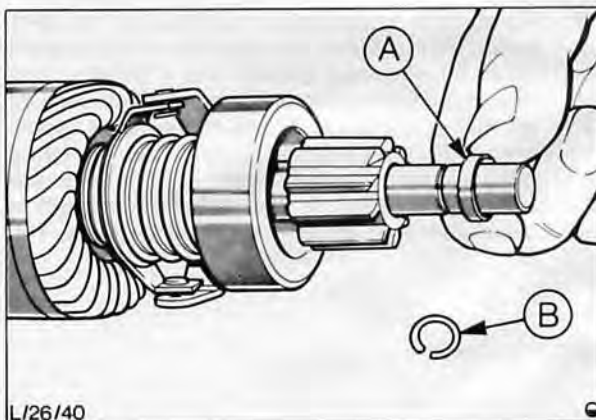

Fig. 84. Removal of 'C' clip when removing drive pinion
7. To remove drive pinion, clutch assembly and engagement lever from armature shaft, it is necessary to remove 'C' clip, Fig. 84 'B'. Using a suitable sized box spanner or tube, drive 'C' clip off thrust collar, Fig. 84 'A', and remove thrust collar from its groove.